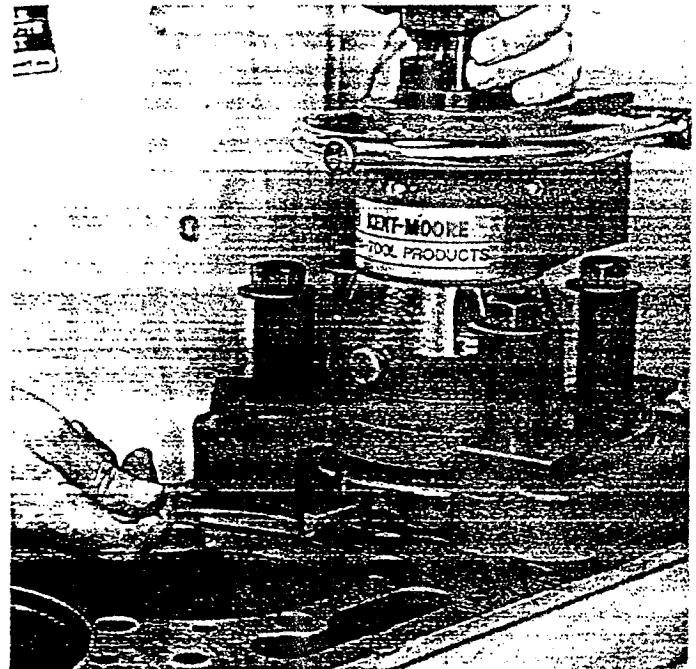

FIGURE 14
13. Loosen swivel pad set screw and insert cutter removal key into shallow hole in bottom of cutter and pull to remove cutter from plate. Remove boring machine. (See Figure 14.)